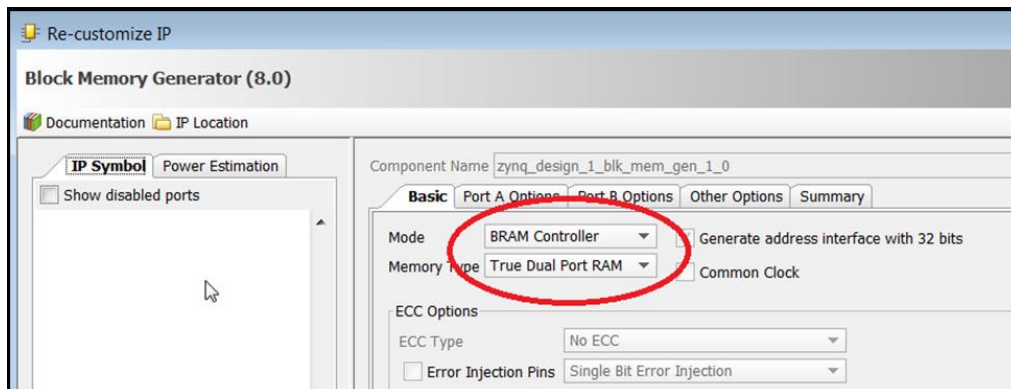

Figure 13: Set Mode and Memory Type
- **Memory Type** to **True Dual Port RAM**Click OK (Fig 13)